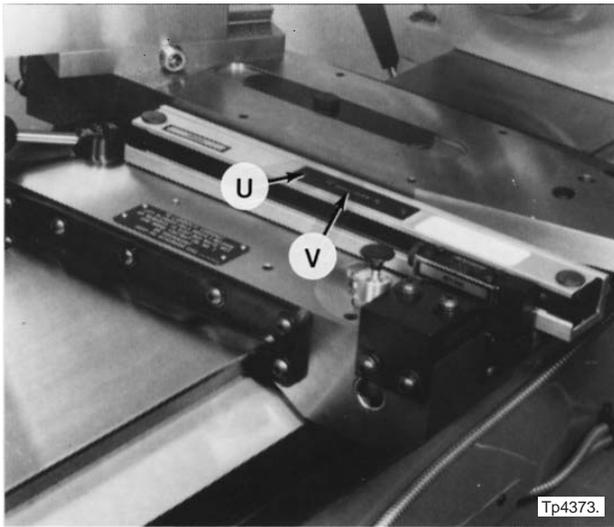

Figure 1.47 - Scale and Reader Head Covers
7. Remove four screws “U”, Figure 1.47, and cover “V”.
39. Mount cover "V", Figure 1.47, using four screws "U".